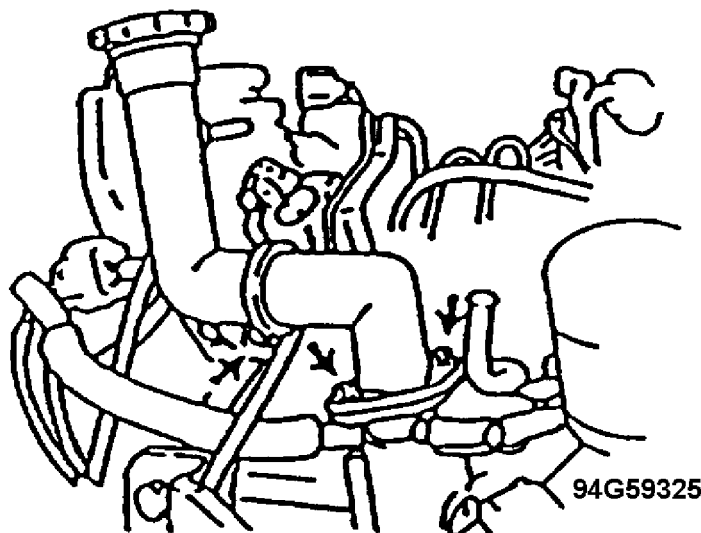

Fig. 43: Oil Filler Pipe Identification
20. Remove the oil filler pipe. See Fig. 43.